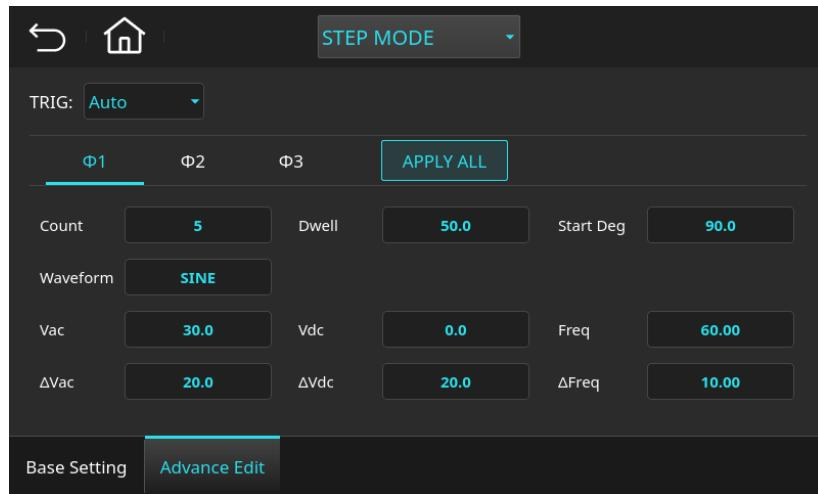

Figure 5-17 Step Mode Setting Page (Example Parameters for Phase 1)
2. Set TRIG = Auto, and edit the parameters as shown in Figure 5-17.